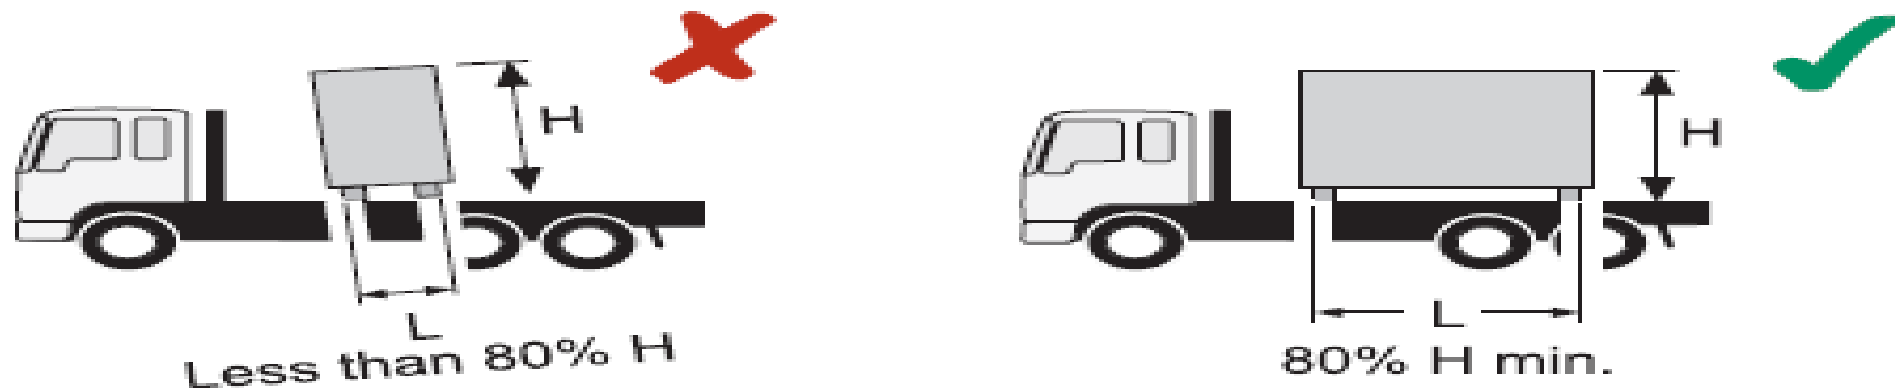

Fig. B.16
Tall loads are unstable in the forward direction, if the length (L) measured along the vehicle, is less than 80% of the height (H) (see Figure B.16). This applies to evenly shaped loads of the same material throughout such as paper rolls, 205 litre drums, or gas cylinders.